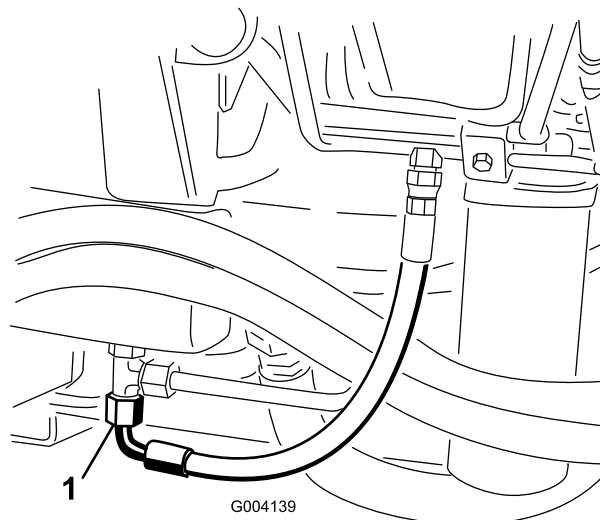

Figure 76
2. Place a large drain pan under the tee fitting secured to the bottom of the hydraulic fluid reservoir (Figure 76).